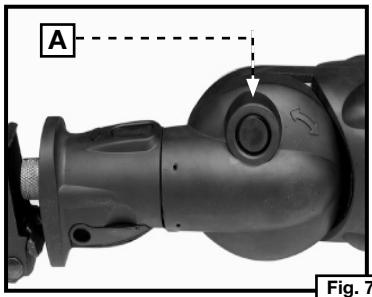
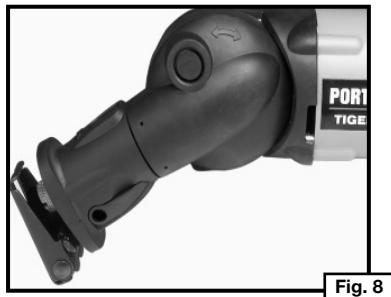

Fig. 7
Fig. 8
- To rotate the gear housing, depress and hold the lock button (A) Fig. 7. Move the gear housing up or down to the desired position or angle. Release the lock button and continue to move the gear housing until the lock button snaps into the desired detente position (Fig. 8).